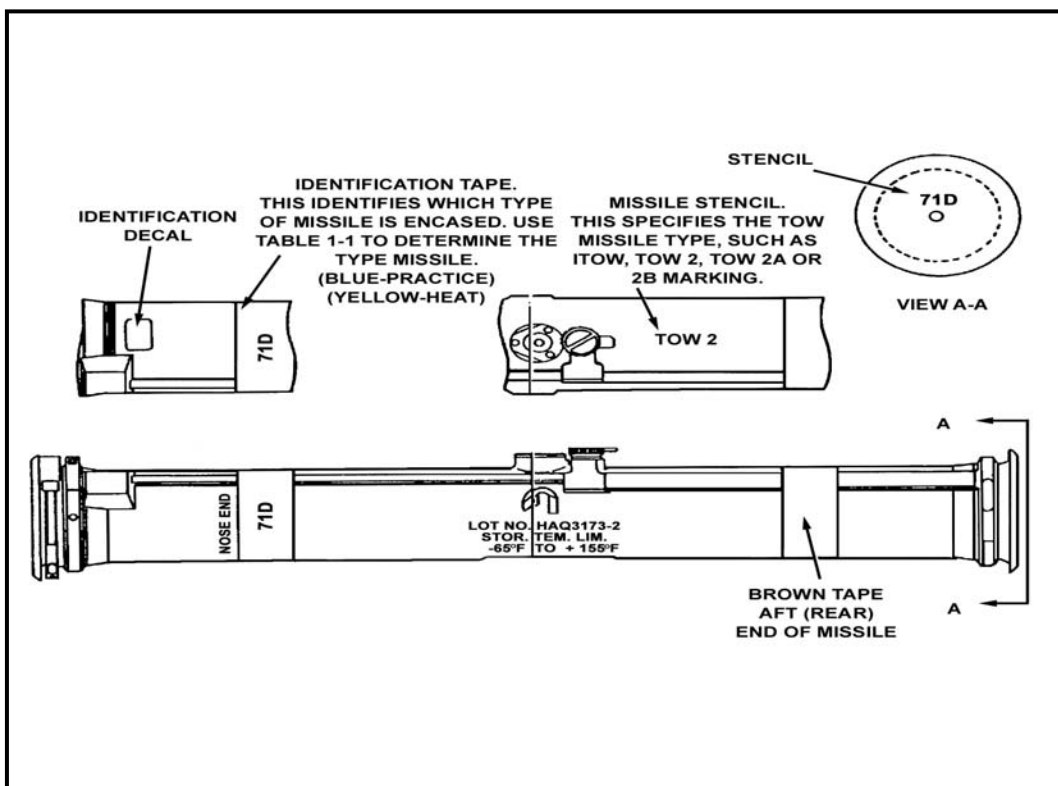

Figure 1-3. TOW missile case markings.
a. The configuration of the missile can be readily identified by the various identification decals, tapes, and stencils on the missile case (Figure 1-3 and Table 1-1). (See TM 9-1410-470-34 for current information on TOW missiles.)